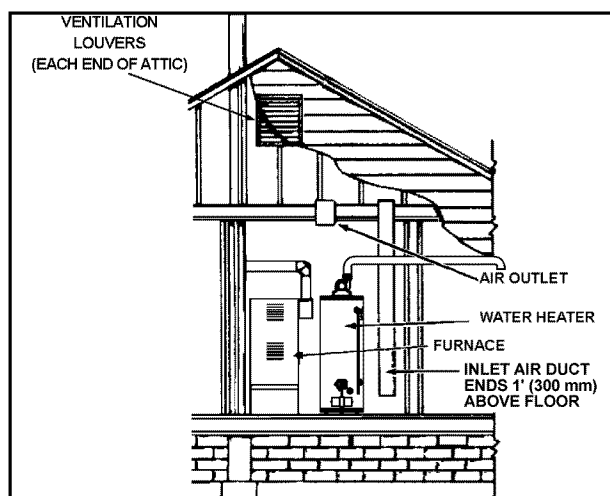

Figure 17
2. When communicating with the outdoors through vertical ducts, each opening shall have a minimum free area of 1 square inch per 4,000 Btu/hr ($5.5\text{cm}^2/\text{kW}$) of total input rating of all equipment in the enclosure (see Figure 17).